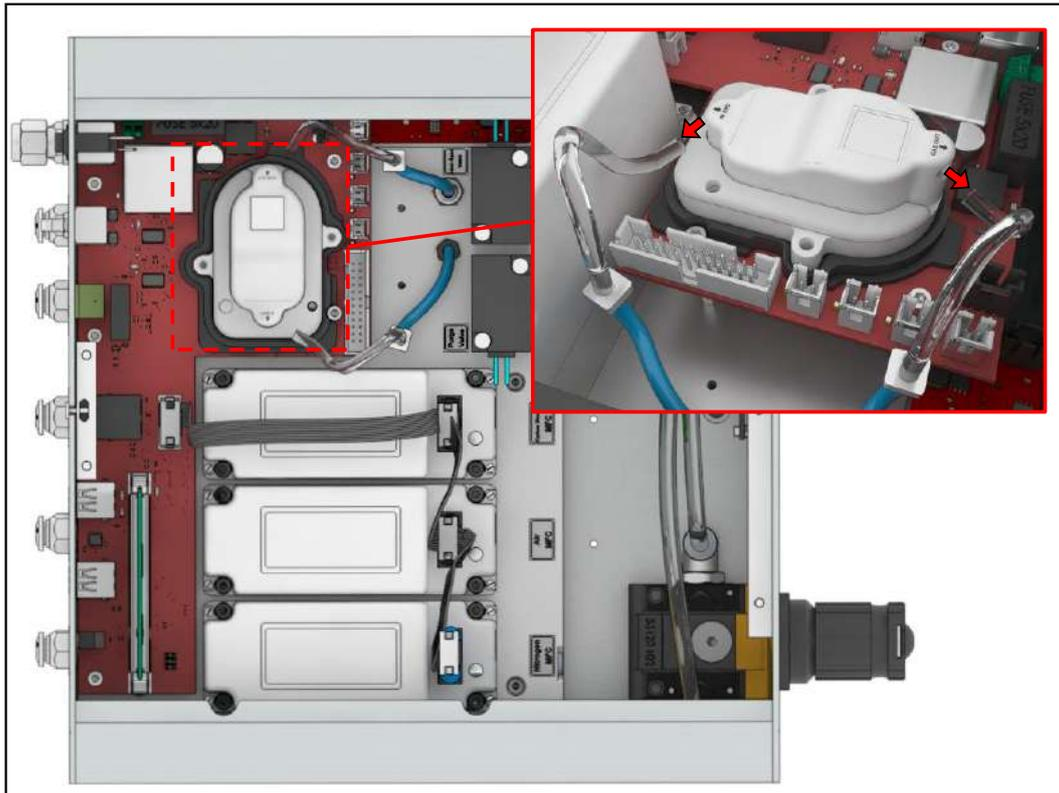

Figure 112. Disconnect the tubes from CO2-O2 Module.
3. Disconnect the tubes from the Gas IN and Gas OUT connectors of the CO2- O2 Module, see Figure 112.